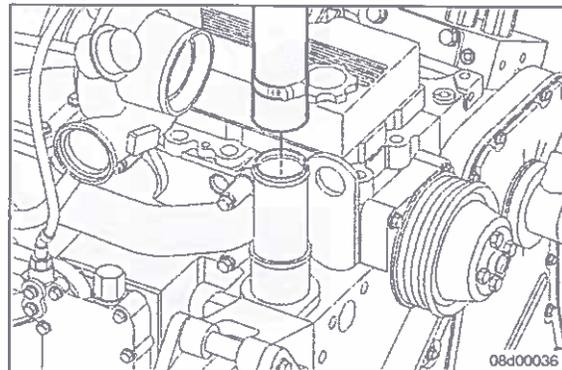

Fig. 1
4. Remove the radiator hose from the water outlet connection. (Fig. 1)